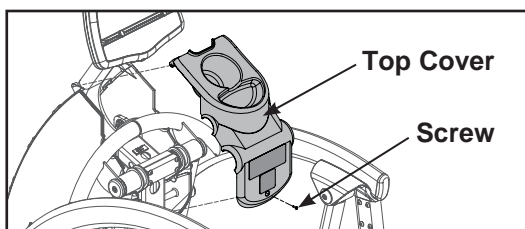

Figure 5
- A. Using a Phillips screwdriver, remove the screw securing the top cover. See Figure 5.
- A. Place the top cover in position. See Figure 5.